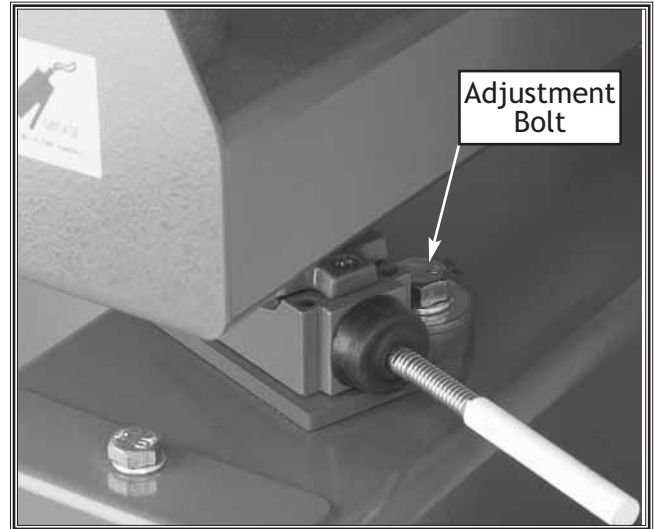

Figure 16. Tracking safety switch and adjustment bolt.
Belt tracking safety switches are placed on both sides of the belt to act as emergency machine stops if the belt travels too far to one side during oscillation. See **Figure 16**.
5. Loosen the adjustment bolt shown in **Figure 16** and move the switch so the belt and the ceramic rod have approximately $\frac{1}{2}$ " clearance from each other.